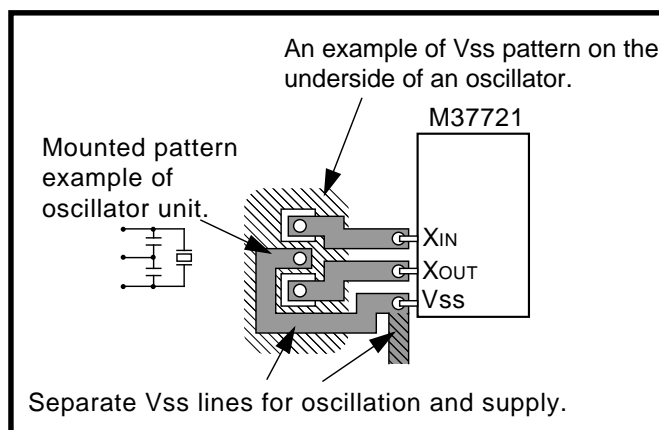

Fig. 11 Vss pattern underneath mounted oscillator
- Separate the Vss pattern for oscillation from all other Vss patterns. (Refer to “Figure 11.”)